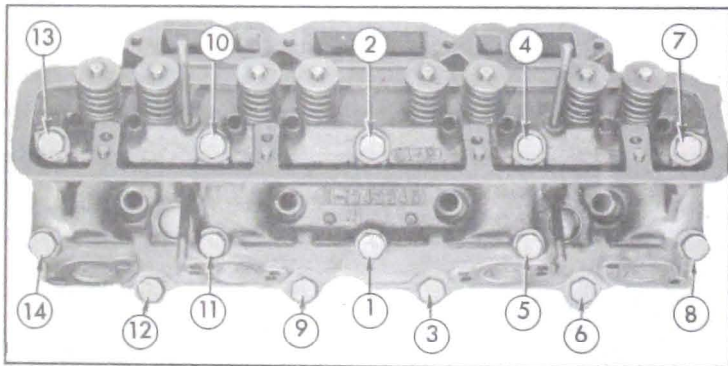

Figure 2-20—Cylinder Head Bolt Tightening Sequence
(1) When handling thin crimped steel gaskets use care to prevent damage to the lacquered surface coat and to prevent kinking at sealing rings stamped in gasket. The lacquered gasket should not be coated with any type of sealing material when installed. *Always use a new steel gasket because the stamped sealing rings are flattened in a used gasket.*
(2) Right and left cylinder heads are identical except that the water inlet port is open at front end and is plugged at rear end as installed on engine.
(3) After installation of cylinder head, tighten all bolts a little at a time about three times around in sequence shown in figure 2-20, then finally tighten in same sequence to 63-73 ft. lbs. torque.